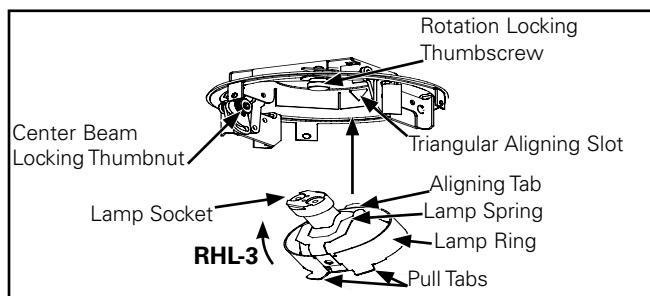

Figure 6.
1. Pull tabs down on Lamp Ring until unit disengages from the spin disc assembly (Figure 6.).
2. Insert new lamp. Ensure that the lamp is seated against the Lens and retained by the Lamp Spring. Push Socket onto Lamp (Figure 6.).
3. Feed Socket leads into can and align the Aligning Tab on the Lamp Ring with the Triangular Slot in the Adjustment Bracket. Push on tabs until unit "snaps" into place (Figure 6.).
Loosen the Rotation Locking Thumbscrew (Figure 6.). Rotate Spin Disc into desired location. Tighten Rotation Locking Thumbscrew.
Loosen the Center Beam Locking Thumbnut (Figure 6.). Insert a screwdriver in-between the Hot Adjustment Tabs, into the Adjustment Bracket. Aim beam to desired location and Tighten Thumbscrew.